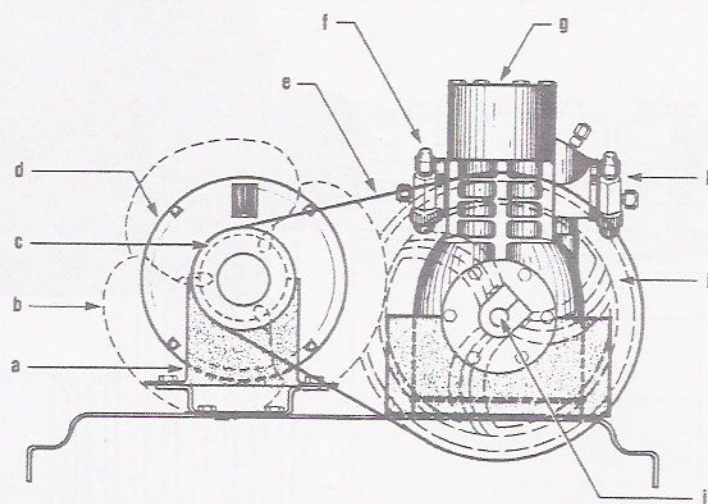

Figure 3-9. Parts of an external drive compressor.
6. List each device on the external drive compressor in Figure 3-9.